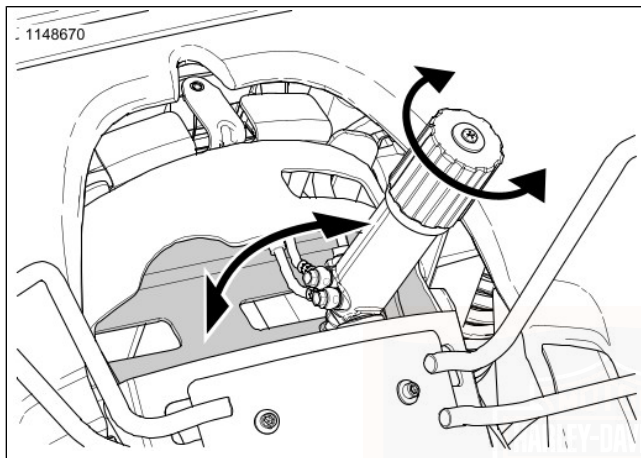

Figure 19. Rear Suspension Adjuster
3. See Figure 19. Rotate adjustment knob clockwise to increase preload setting, or counterclockwise to decrease preload setting until indicator knob shows appropriate preload setting on the scale.